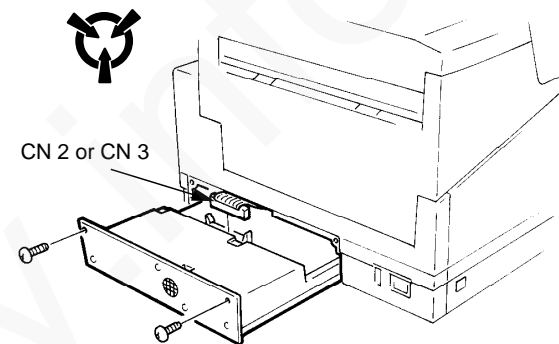

Figure 1. PWB chassis
6. Remove the PWB chassis (figure 1).